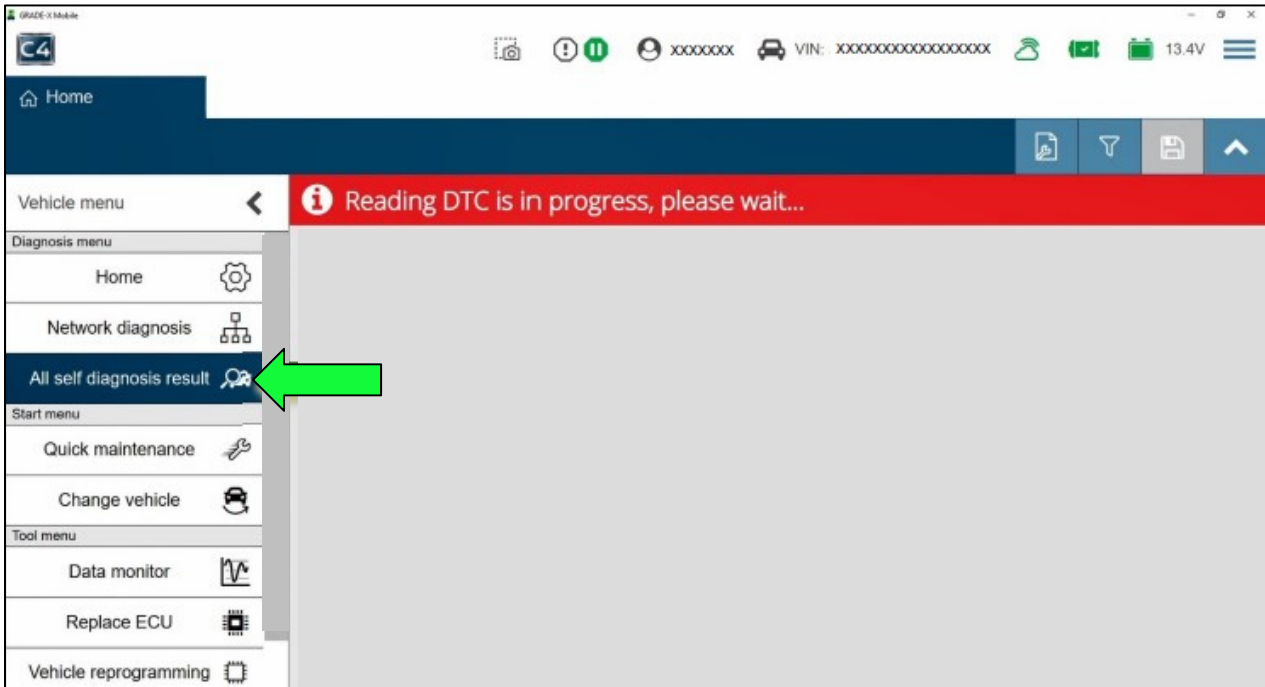

Figure 23
a. Select **All self diagnosis result** (Figure 23)